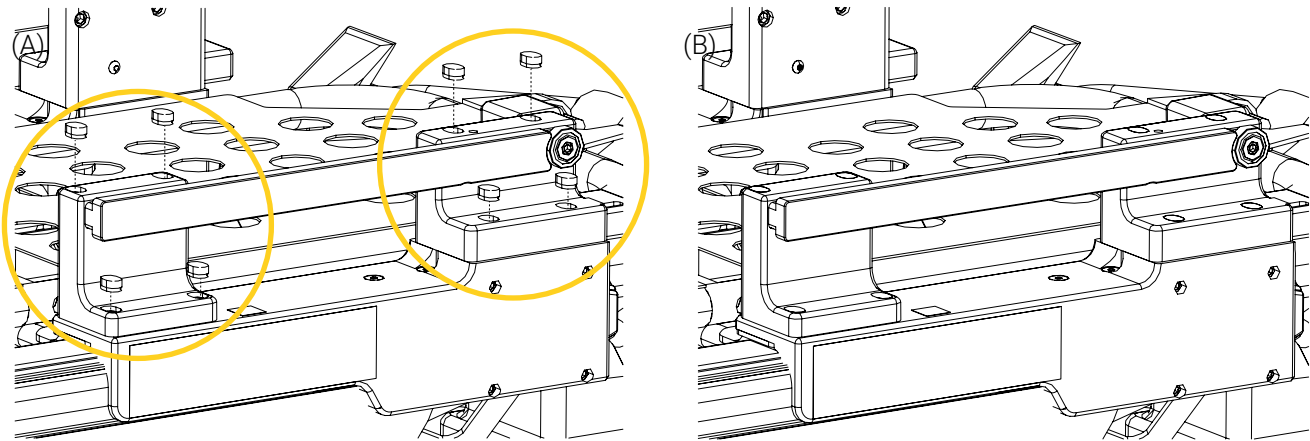

Figure 49: Installation of the screw caps on the XTPA-PPXT Rail clamp block (patient left)
22. Install eight (8) screw caps on the XTPA-PPXT Rail clamp blocks of each XTPA-PPXT Rail System using a punch and mallet, ensuring that they are flat and leveled with the surface of the rail clamp blocks (Figure 49).